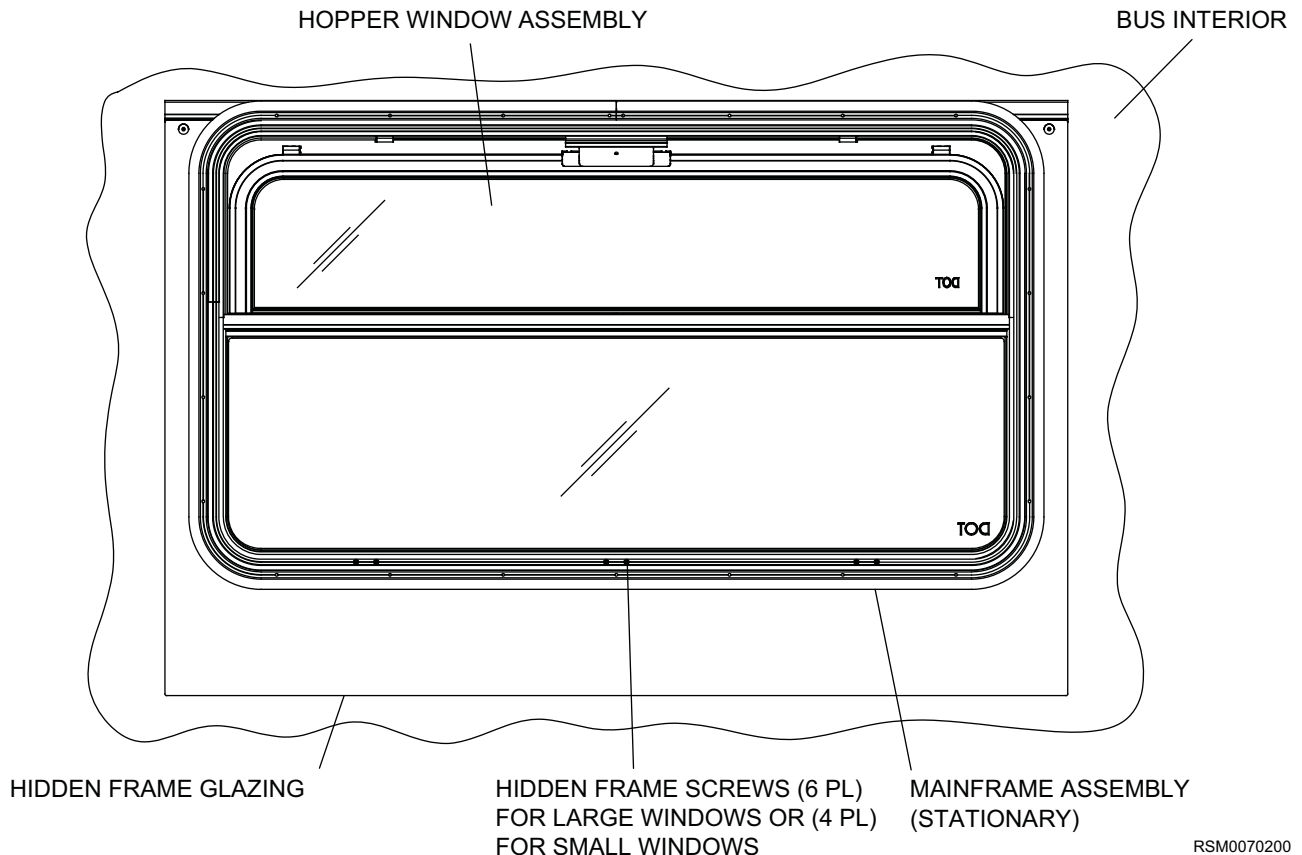

FIGURE 3-32: HIDDEN FRAME HOPPER
- 1) Refer to Figure 3-32. From the inside of the vehicle, identify hopper assembly and locate all screws required to detach glazing from mainframe assembly.
- 6) From the interior of the bus vehicle, install screws to secure hidden frame fixed hopper into mainframe assembly. Refer to Figure 3-32.